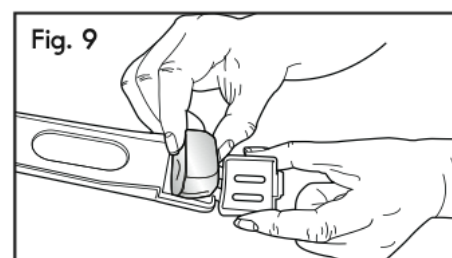

Fig. 9
11. Open the water filter carriage, pull out the used charcoal filter, and replace with a new one of the same size and shape as shown in Fig. 9.